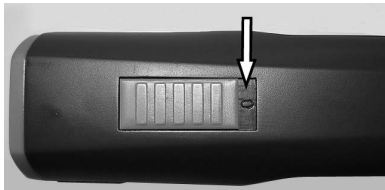

Fig. 4 Switch in OFF-position ("0")
1. Test the contacts of the clipper (1) and the battery (2) for foreign particles and contamination.
2. Assure, that the switch lever of the clipper is in OFF-position ("0") (fig. 4).
3. Insert the battery (2) in the clipper (3), until the battery interlock (1) is engaged on both sides.
4. Put the clipper with the inserted battery (1) or spare battery (2) from above without force into the provided charging cavity of the charging station.
6. Battery is charging. During the charging time the control light is illuminating red (3). As soon as the battery has been charged to a min. 90%, the indicator lamp will change to green and the charging station switch to "trickle charging".
1. Move the switch to position "0" (fig. 4).
2. Push the battery interlock (2) on both sides inward and pull the battery (1) out of the clipper.
3. Insert charged battery (1) into the shearer (2), until the battery lock is locked in on both sides.